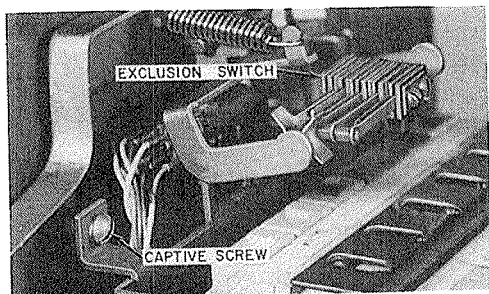

Fig. 13—Exclusion Switch Installed and Hinged Chassis Mounting Screws
3.02 The telephone set should be mounted before installing the modular items. To expose the mounting holes, the hinged chassis assembly must be lowered by loosening the captive screws (Fig. 13) holding the top of the chassis. Where desired, the chassis assembly can be removed by springing the hinge brackets sufficiently to clear the pins. The base pan can be mounted directly to the wall using the keyhole slots, or holes are provided for mounting over an electrical outlet box.
- (1) With chassis in lowered position, fasten switch assembly to line switch bracket using screw provided in kit. Screw must be inserted in hole from rear of bracket.
- (2) Position switch assembly horizontally (Fig. 13) and fasten securely.